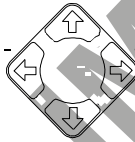

Figure 28: Navigation Control Keys
- Using the navigation control keys on the infra-red remote control transmitter (see Figure 16), to fine tune the zoom position (that is, to slowly zoom-in at any location on the screen)², as Figure 28 illustrates